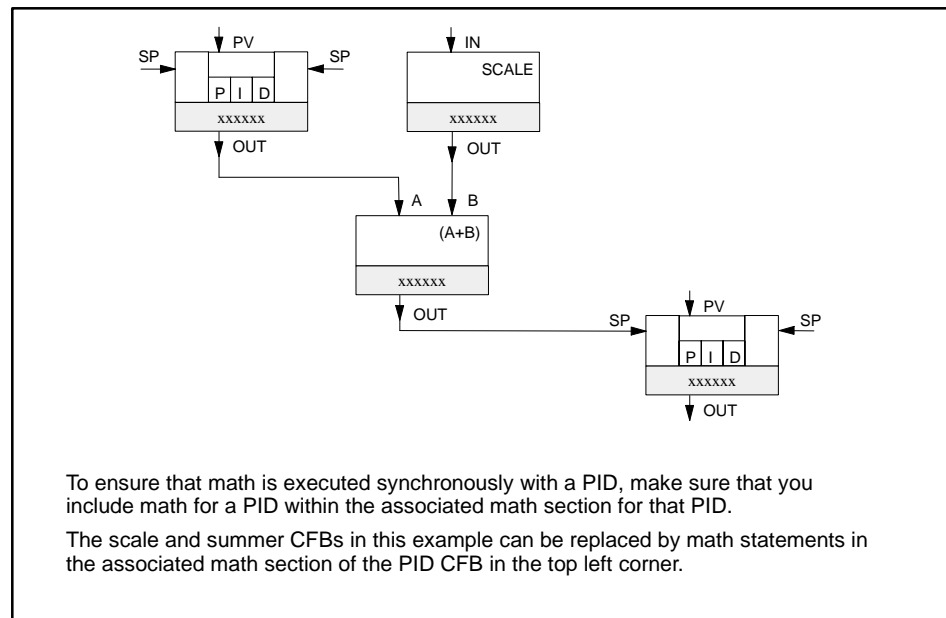

Figure 8-1 Using Math Control Blocks
- The arithmetic blocks include absolute value, divider, multiplier, subtractor, square, square root, and summer. These can be used individually or with inputs from other blocks. For an example of how arithmetic blocks are used, see Figure 8-1.
Figure 8-1 shows how arithmetic blocks can be used.